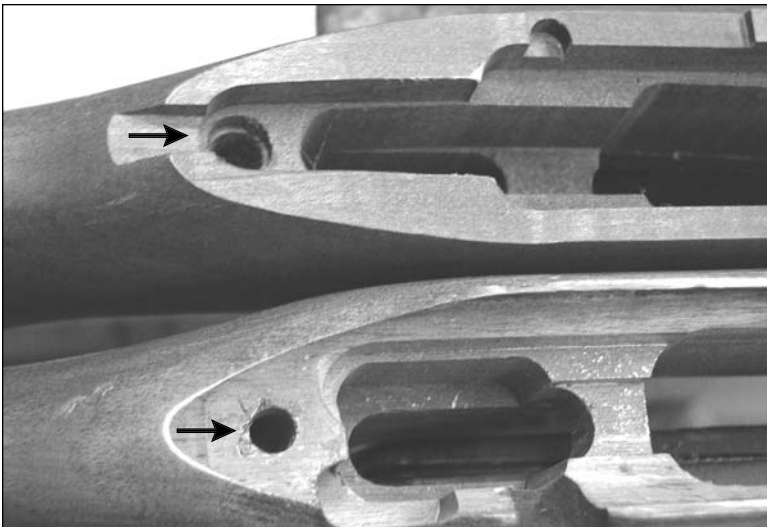

Figure 5B: The Remington M700 (bottom) offers a wider tang area than the M98 Mauser (top).
3. Using the same chisel, or rotary tool, relieve the area immediately surrounding the rear tang screw hole to a diameter of 1/2" and a depth of 1/8" (.125"). (See Figure 5A). The diameter of the area to relieve is determined by the design and width of the tang. For example, the tang of a M98 Mauser is significantly narrower than a Remington M700. Bedding should not extend beyond the width of the tang contact area. (See Figure 5B).